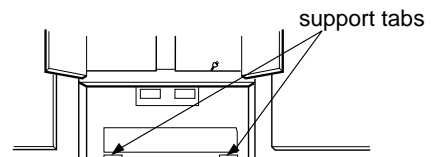
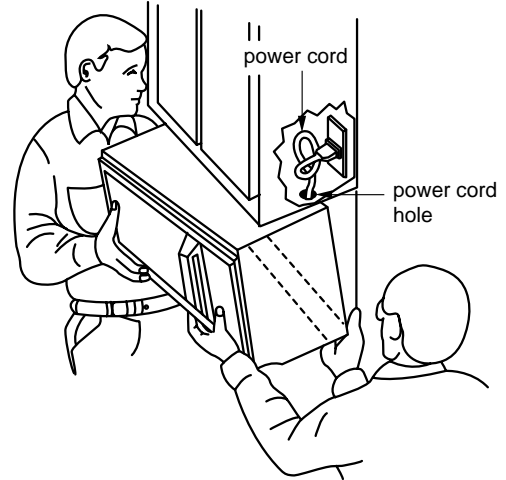

Figure 28
Figure 32
3. Place the mounting plate against the wall and match the screw holes. See Figure 28.
1. Carefully lift microwave oven and hang it on support tabs (See Figure 28 at the bottom of the mounting plate. Reaching through upper cabinet, thread power supply cord through the power supply cord hole in the bottom of the upper cabinet. See Figure 32.